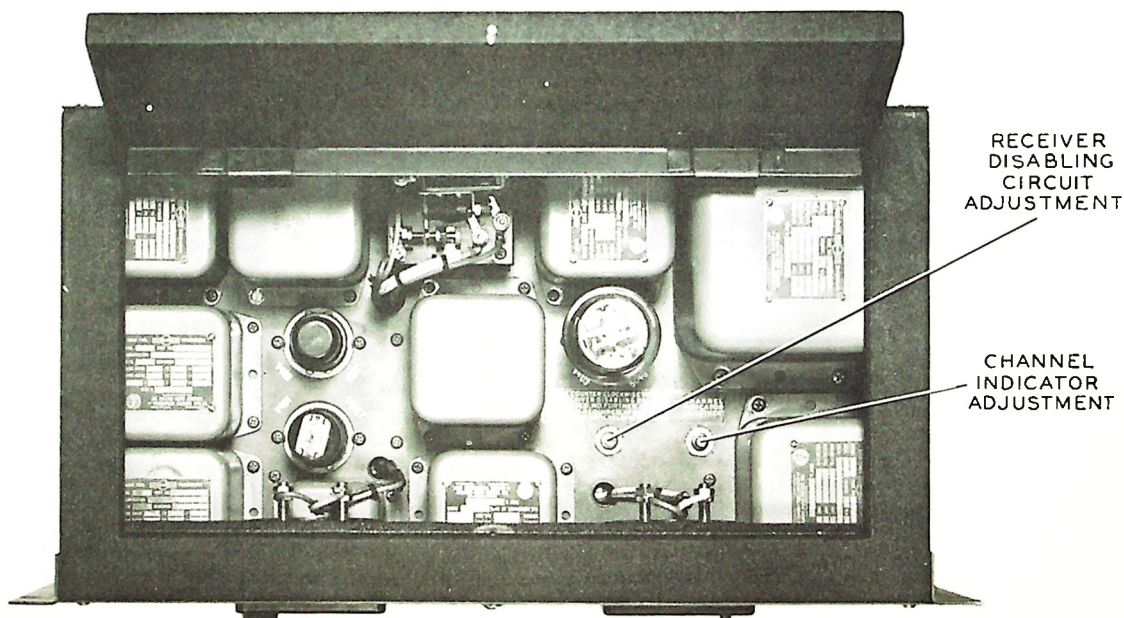

Figure 29. Type 177G-9 Remote Control Unit - Top
4.11. CHANNEL INDICATOR AND DISABLING CIRCUIT ADJUSTMENT. (Although the adjustment procedure outlined below is given with reference to the type 177G-9 Remote Control Unit, the procedure, with appropriate changes in symbol numbers, applies equally well to the type 177G-10 Remote Control Unit.) Refer to figure 29.